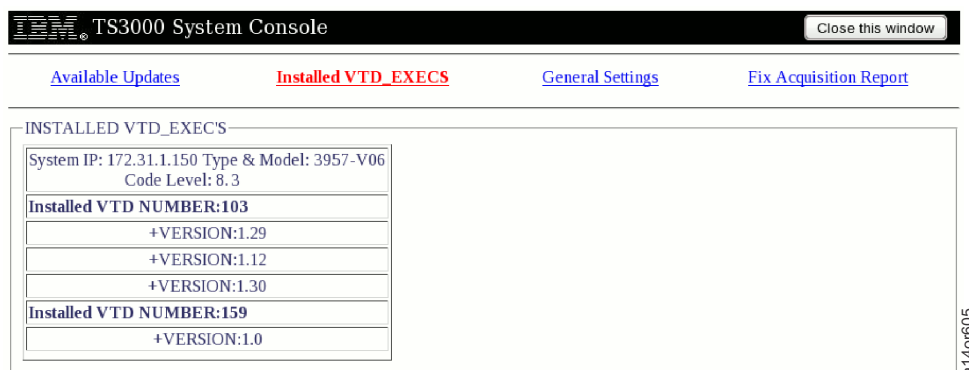

Figure 270. Installed VTD_EXECs
5. Click **Installed VTD_EXECs**. See Figure 270.